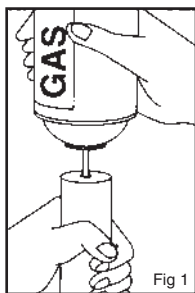

Fig 1
2. Hold refill container above unit and press the container nozzle into gas refiller valve. (Fig 1)